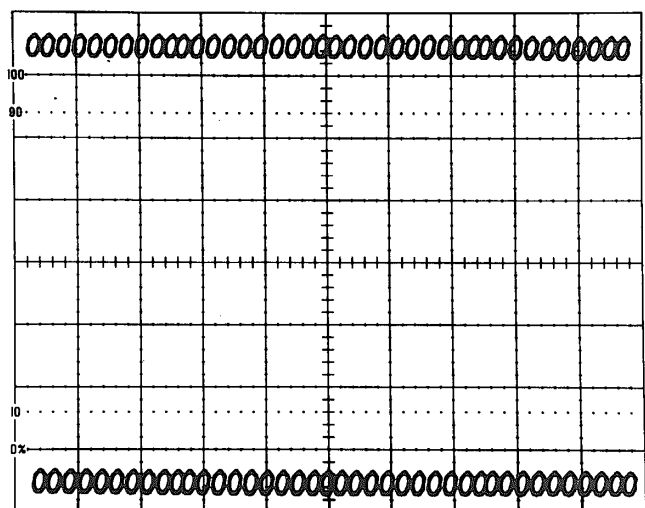

Fig. 4-3. Readout display with Q3416 removed.
- d. CHECK—CRT display for two rows of zeros, 40 zeros to a row with no overlap. The two rows of zeros should be located vertically in the middle of the top and bottom divisions of the graticule (see Fig. 4-3).